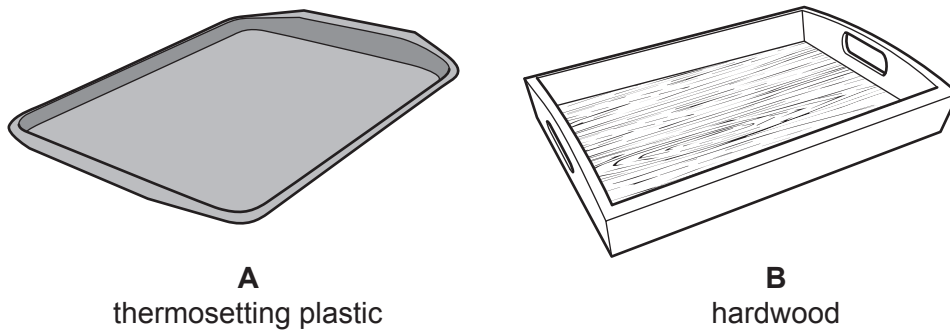

Fig. 9.1
- 9 Fig. 9.1 shows two serving trays.